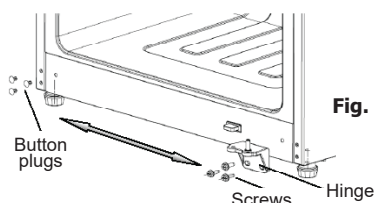

Fig. 3
4. Remove three screws that hold the bottom hinge to lower end of cabinet. Remove the three button plugs from lower LH corner and transfer to holes where bottom hinge was just removed. See Fig. 3.